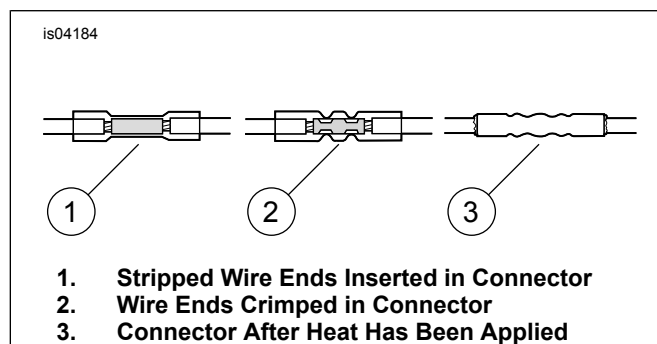

Figure 6. Installed Sealed Butt Connectors
2. See Figure 6. Insert the two black turn signal wires into opposite ends of a butt splice connector. Insert the two violet/ brown wires into opposite ends of a second connector.